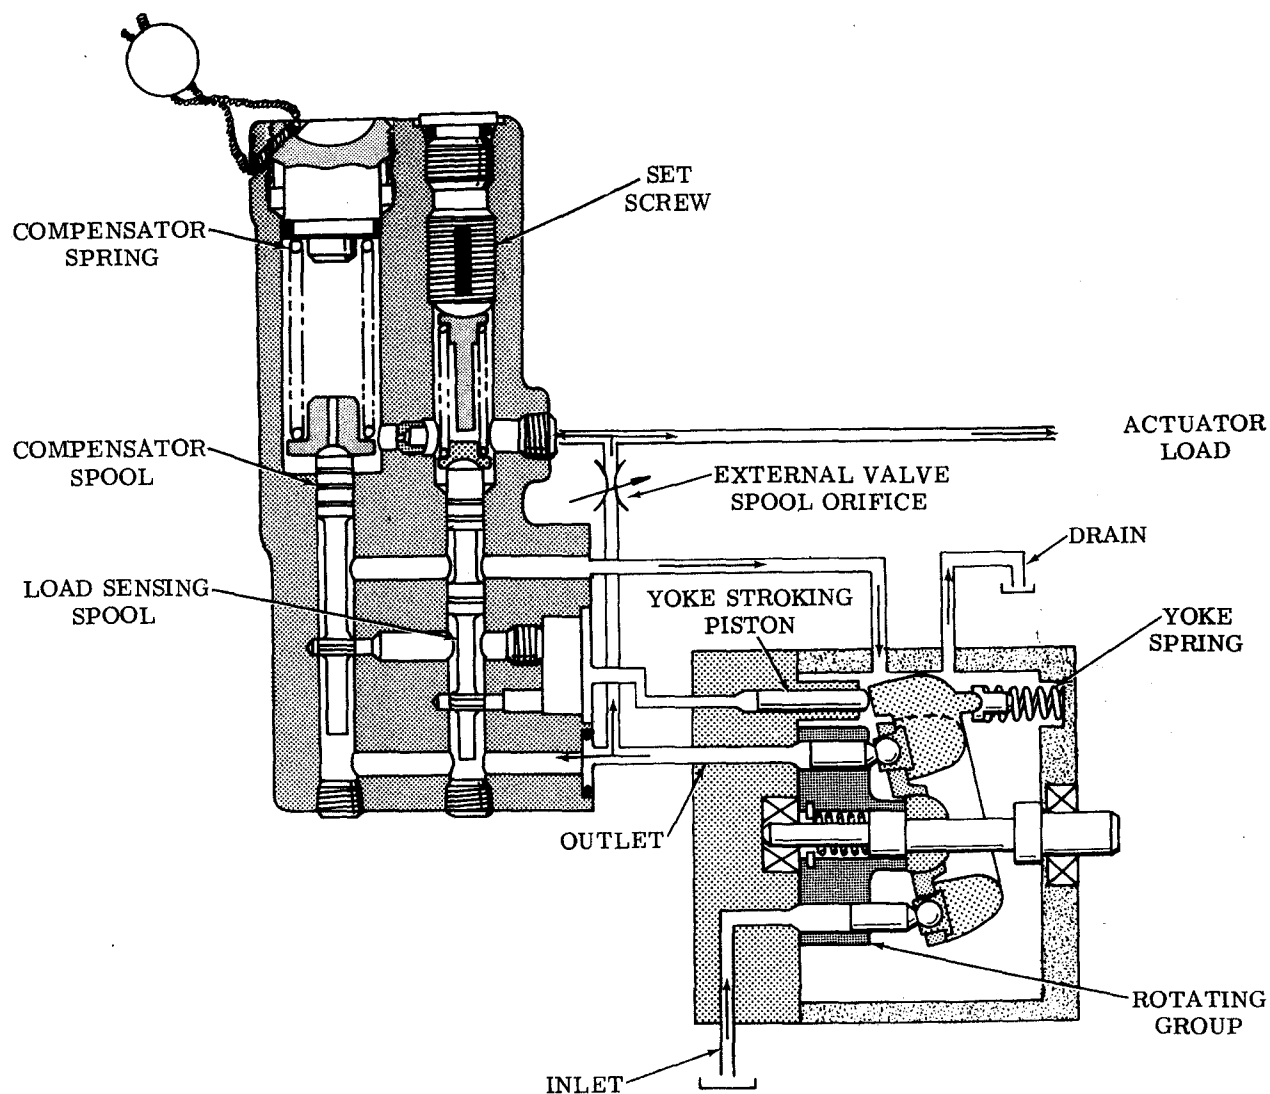

Figure 5. Load Sensing Pressure Limiting Compensator (CVP, CVPC or CVPD)
1. Compensator (C), (Flat Cut-Off Type): A pump using this compensator will maintain a constant load pressure for all values of flow within the capacity of the pump.
2. Compensator (CG), (Remote Control Type): This compensator is similar to the 'C' type except the compensator is controlled by a remote hydraulic source such as a relief valve.
3. Compensator (CV), (Load Sensing Type): A load sensing compensator provides flow at a pressure equal to that required by the load plus a constant value used as a pressure drop across a metering valve. The pump will change its flow with changes in size of the metering valve orifice. The pump and compensator together provide a constant flow source for the load, at a pressure established by the requirements of the load, hence the title "load sensing."
4. Compensator (CVP), (Load Sensing Pressure Limiting Type): The CVP control is a combination of the standard flat cut-off compensator (C) and the load sensing compensator (CV). The load sensing compensator controls flow to the load across an external valve orifice. If pressure build-up exceeds the flat cut-off compensator setting, the flat cut-off compensator overrides the load sensing compensator and lowers the flow to prevent excessive pressure build-up at the pump.
5. Compensator (CVPC), (Load Sensing, Pressure Limiting Type): This compensator is the same as the 'CVP' compensator except the load sensing spring is heavier. The heavier spring provides a slightly higher pressure differential (160ΔP vs. 350ΔP) across the external valve orifice. See Figure 5.
The load sensing portion functions at pressures below the flat cut-off compensator setting and provides a constant flow characteristic. If pressure exceeds the flat cut-off compensator setting, the yoke will stroke to zero flow at maximum pressure lowering the horsepower requirements for holding circuits and protecting the pump. Refer to Figure 5 throughout the following circuit explanation.
Standby defined: When the external valve spool is shifted to zero flow, the circuit is placed in standby (See Figure 5.).
The small fixed orifice located in the compensator body provides a decompression feature for the load circuit during standby operation. The decompression feature allows the pump to stroke to zero flow and minimum pressure (ΔP), if the load is blocked and the external valve spool orifice is closed. (Refer to Figure 5.)